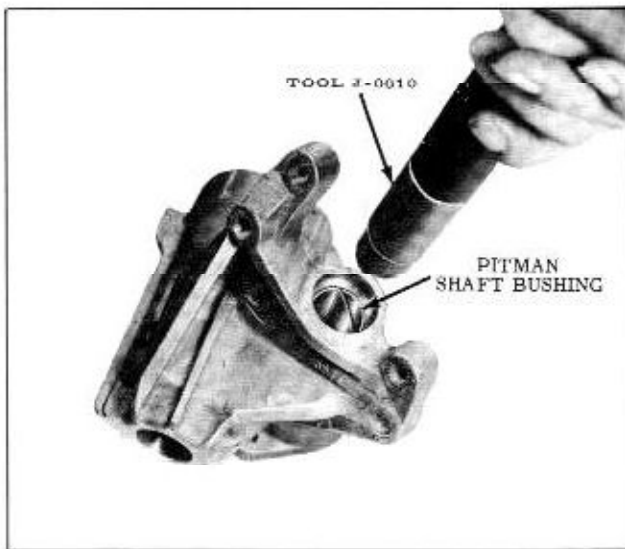

Fig. 4-31 Replacing Pitman Shaft Bushing
1. After removing pitman shaft seal, support steering gear housing in an arbor press and press pitman shaft bushing from housing with Tool J-8810 inserted from lower end of housing as shown in Fig. 4-31.